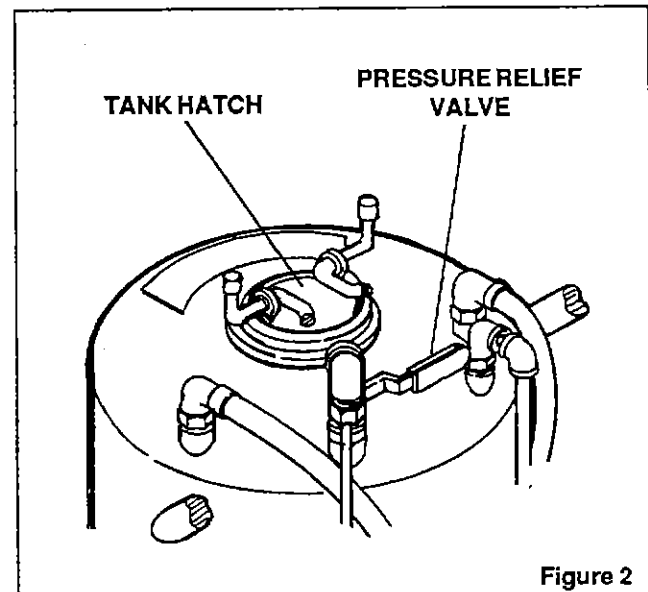

Figure 2
1. Make sure the tank is not pressurized by opening the pressure relief valve, refer to Figure 2.
2. Open the tank hatch, refer to Figure 2.
6. Close the hatch and pressure relief valve, refer to Figure 2.